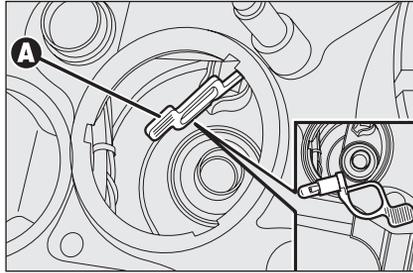

fig. 27
- press tab **A-fig. 27**, remove the bulb and replace it;